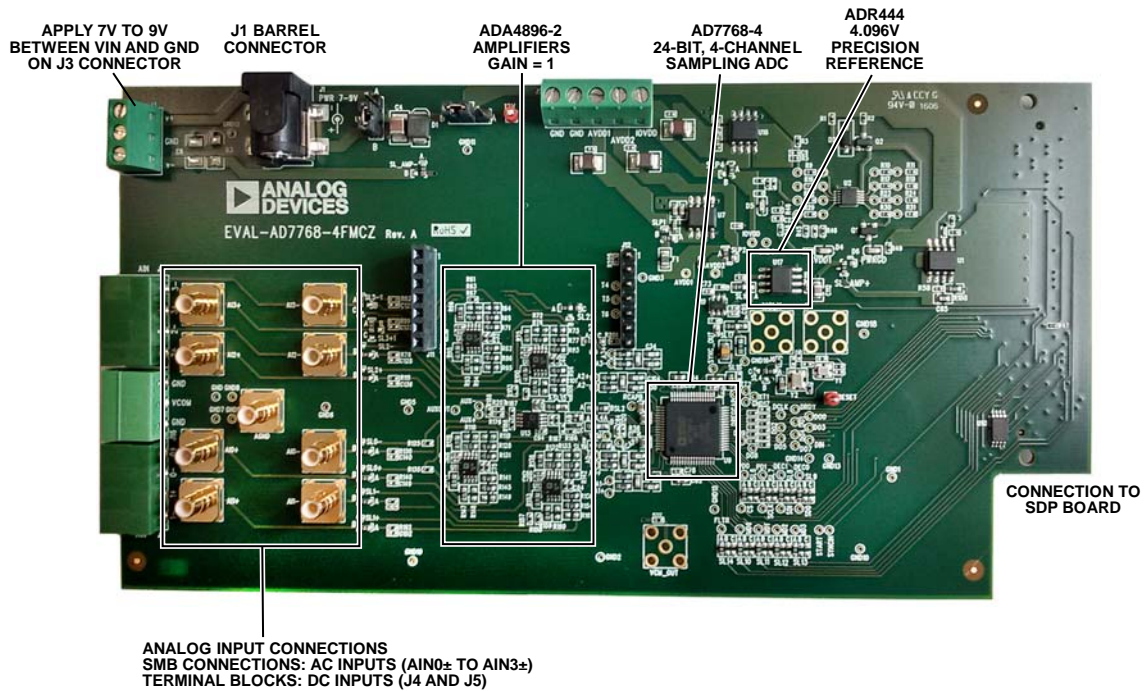

Figure 1. EVAL-AD7768-4FMCZ Evaluation Board
2. Connect the SDP-H1 board to the evaluation board (unpowered). Figure 1 illustrates the connection: J4 of the SDP-H1 board adapts to the receiving socket on the EVAL-AD7768-4FMCZ printed circuit board (PCB).
As shown in Figure 1, the $A_{IN0\pm}$ to $A_{IN3\pm}$ analog inputs are accessible through either the SMBs or the terminal blocks.